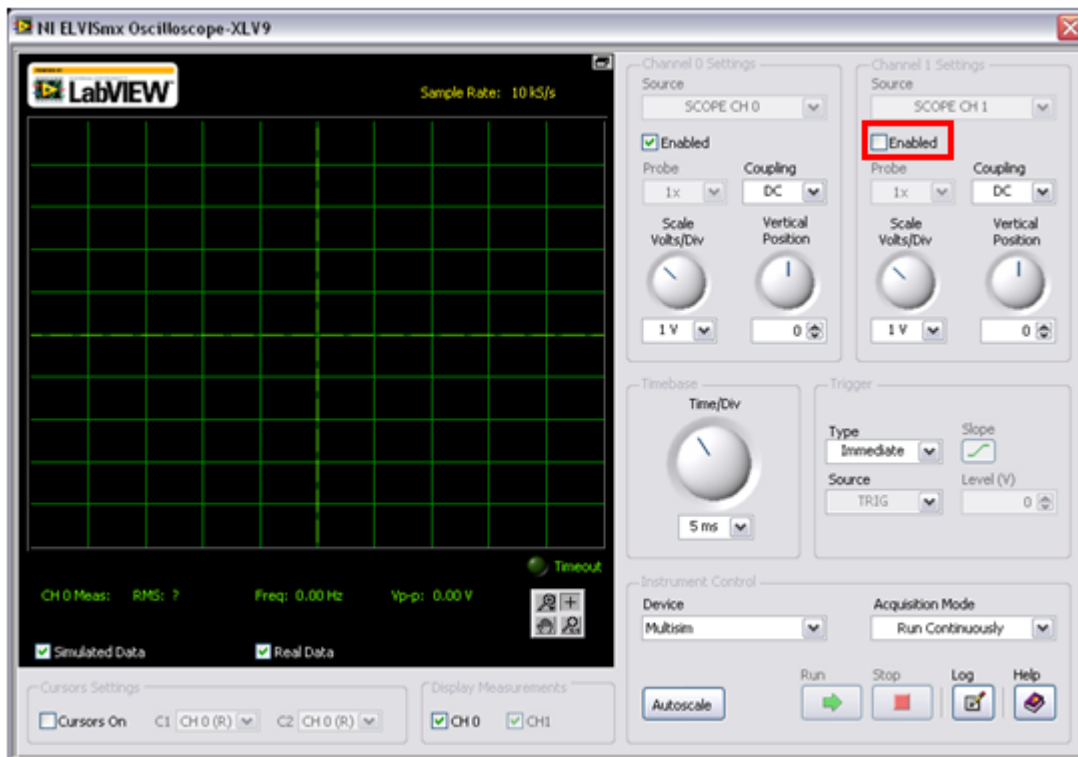

Figure E3-9. ELVISmx Oscilloscope Soft Front Panel
- i. The soft front panel should look similar to Figure E3-9 below. The soft front panel parameters of the oscilloscope can be adjusted on the fly while the schematic is being simulated or during actual hardware testing. Make sure the Channel 1 is enabled by clicking the enabled check box.